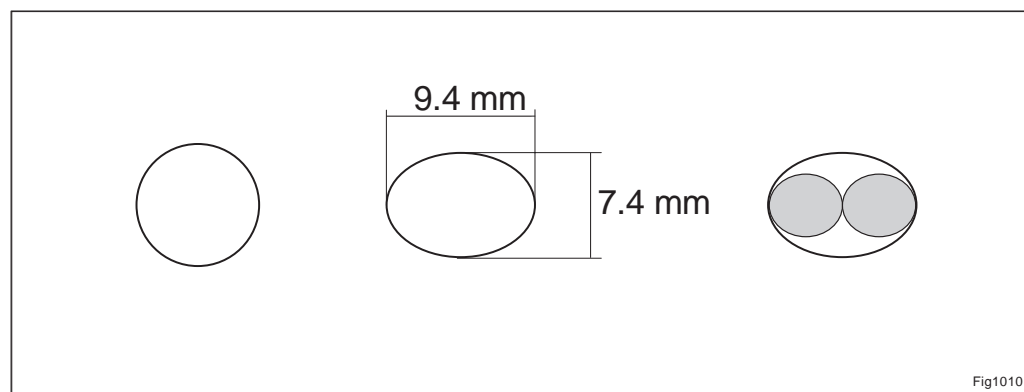

Figure 3-11. Shaping the tube.
5. Shape the tube until it has the measurements defined in *Figure 3-11* above. It will make it easier to slide the tube onto the screen and wires.